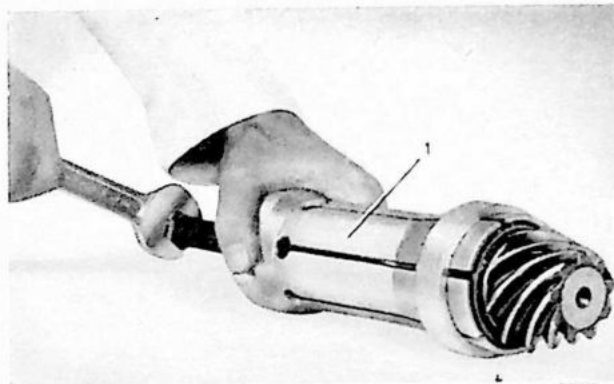

Fig. 11. Removing rear pinion bearing.
6. If necessary, pull the rear bearing (29) off the pinion, see fig. 11. Use puller SVO 2231 for PV 544. For PV 444, 445, use puller 2231 or SVO 4091, see table below.